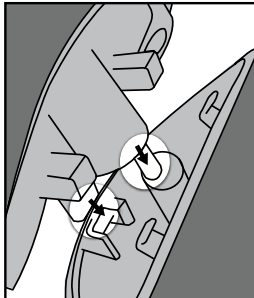

Fig. 5.
- Line up the rear prong of the attachment head with the slot on the back of the handle (Fig. 5).